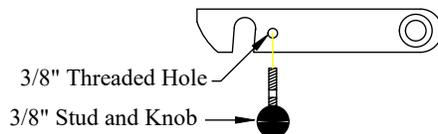

Figure 22: Original Series platform latch knob.
- 1. Install** the two (2) knobs on the platform latches (Figure 22).